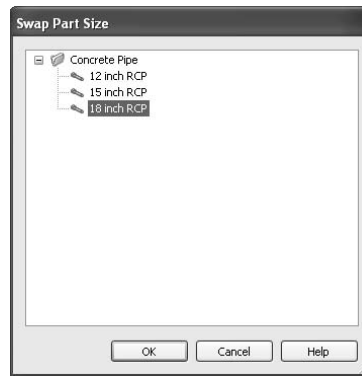

Figure 13.30
4. Select Pipe D. Make sure you select the pipe and not the alignment. You may find it easier to select the pipe if you freeze the alignment layer. Right-click and choose Swap Part. The Swap Part Size dialog will appear as shown in Figure 13.30.